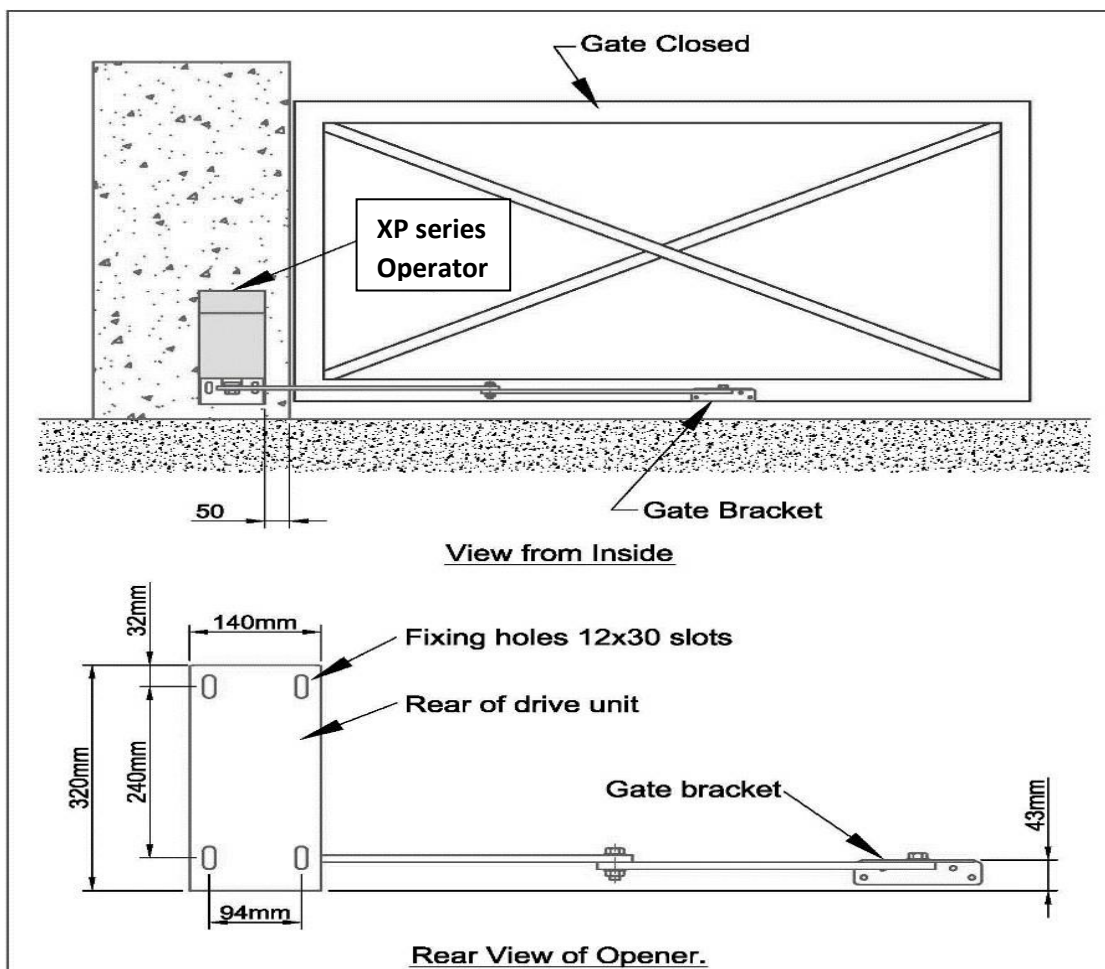

Figure 2: Position of operator.
1. Position each unit on the gate post(s) approximately 50mm from the edge of the pier/post. The vertical position is found by locating the gate bracket. The gate bracket is best placed where there is adequate fixing on the gate and the movement of the arms is unrestricted (See Figure 2). The gate operator may now be bolted in place.